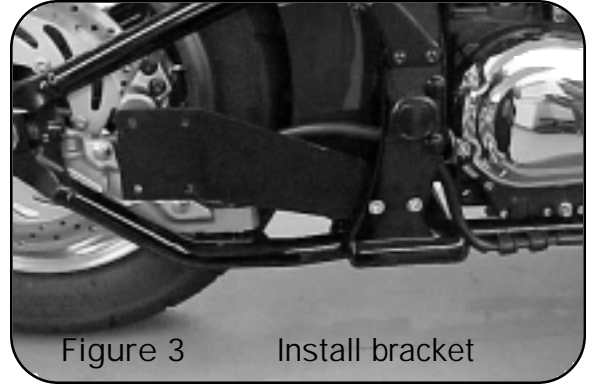

Figure 3 Install bracket
2. Install mounting bracket using two 10x30mm Allen bolts and lock nuts (supplied)(Figure 3).